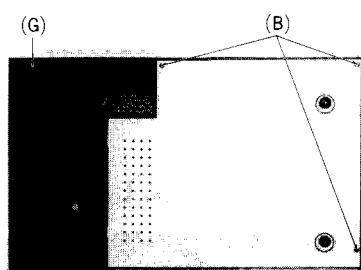

Fig. 2
A Head position adjustment Condition: * Playback and pause mode	<p>(The head adjusting plate is provided to adjust the tape touch of the head in cue or review mode.)</p> <ol style="list-style-type: none"> 1. Press the playback button and pause button. 2. Measure the space between the pinch roller and the capstan. <div style="border: 1px solid black; padding: 5px; width: fit-content; margin: 10px auto;"> Standard value: $0.5 \pm 0.3\text{mm}$ </div> <ol style="list-style-type: none"> 3. If the measured value is not within the standard value, untighten screw (A), and slide the head adjusting plate in the direction of arrow (B) for adjustment (Fig. 2).  <p style="text-align: center;">Fig. 2</p>